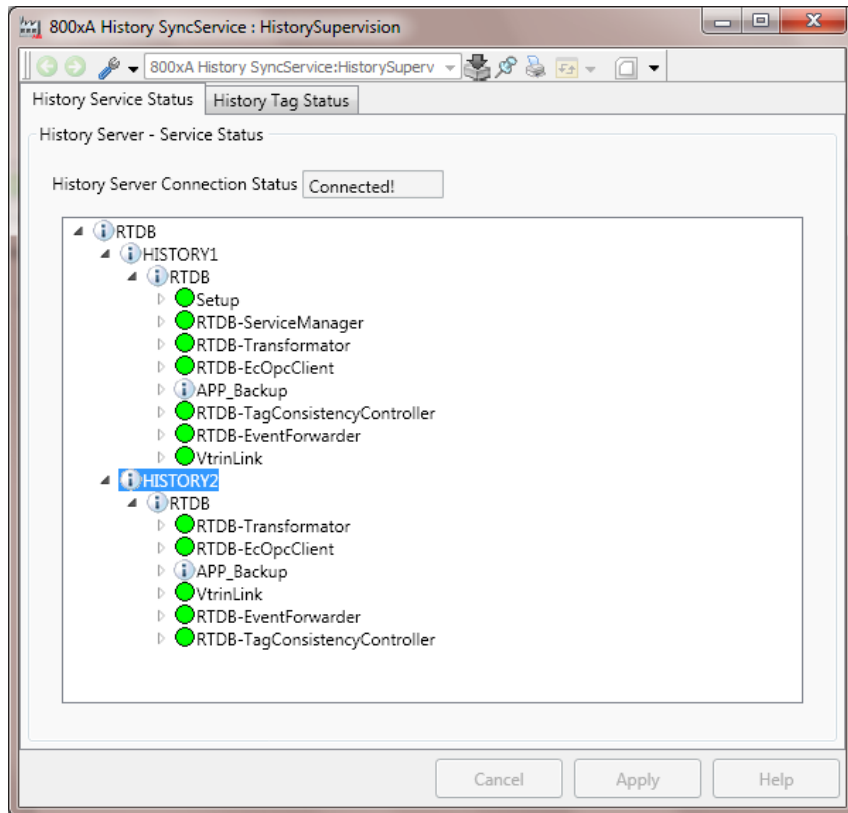

Figure 94. History Supervision - Main View
- Go back to the **Main View** to view the history server connected status - connected as shown in Figure 94.